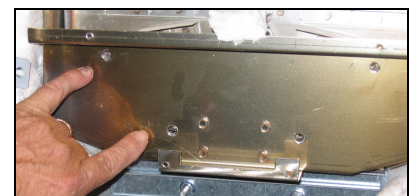

Figure 13
10. Remove the four nuts and cover of the lower insulation retaining cover (see Figure 13).